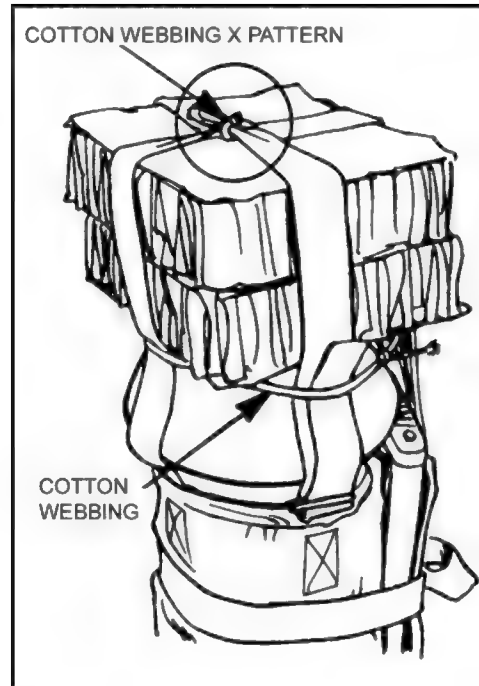
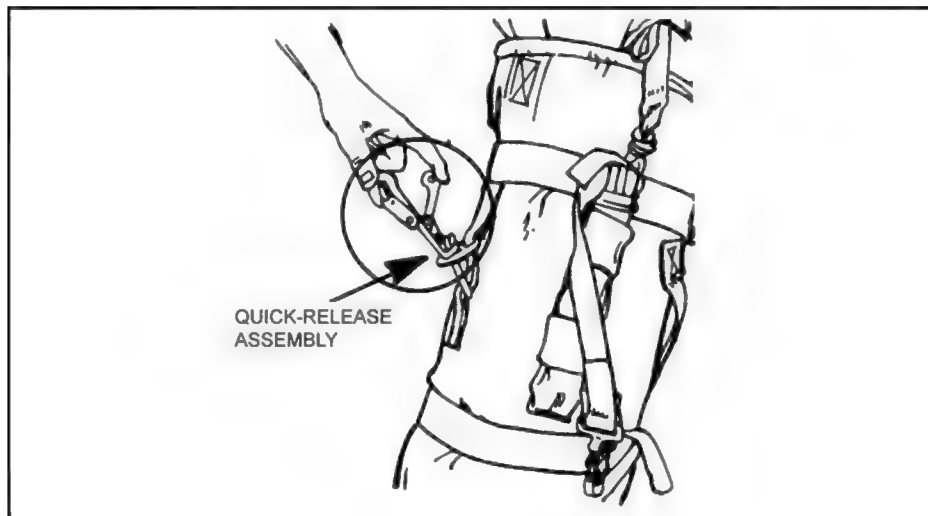

Figure 12-36.
Figure 12-37. Quick-release assembly.
(4) Position the DMJP on the aft end shock absorber and retighten the launcher forward end securing straps using quick-release folds. All excess on the securing straps are folded back under the corresponding quick-fit adapter. Retighten one turn of 1/4-inch, 80-pound test cotton webbing in an X pattern around the launcher forward end securing straps, and tie securely with a surgeon's knot and locking knot (Figure 12-36, page 12-36).
(5) Tie one turn of 1/4-inch, 80-pound test cotton webbing around the launcher forward end, securing straps below the 9-inch square honeycomb. Tie in a surgeon's knot and locking knot to prevent the honeycomb from shifting.
(6) Position the DMJP on the honeycomb and tighten the launcher aft end bridle securing strap. Secure its running end by folding it back under the corresponding quick-fit adapter.
(7) Tighten the three horizontal securing straps as evenly as possible around the weapon(s). Incorporate a quick-release fold and secure with a retainer band or two turns of masking tape.
(8) Attach the quick-release assembly to the pack (Figure 12-37).